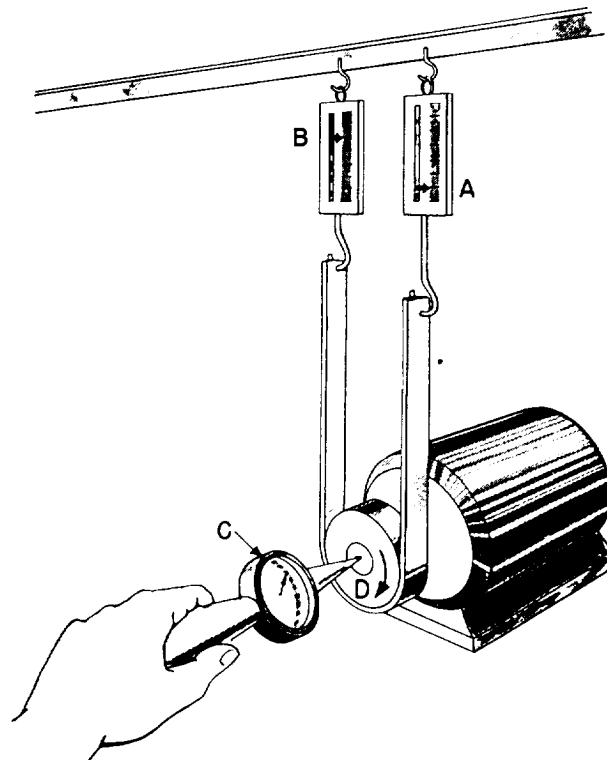

Figure 8-3.-A prony brake.
motor or a steam or gas engine is with the use of the prony brake. Figure 8-3 shows you the prony brake setup. A pulley wheel is attached to the shaft of the motor and a leather belt is held firmly against the pulley. Attached to the two ends of the belts are spring scales. When the motor is standing still, each scale reads the same— 15 pounds. When the pulley turns in a clockwise direction, the friction between the belt and the pulley makes the belt try to move with the pulley. Therefore, the pull on scale A will be greater than 15 pounds, and the pull on scale B will be less than 15 pounds.
You can find the number of revolutions by holding the revolution counter (fig. 8-3, C) against the end of the shaft for 1 minute. This counter will record the number of turns the shaft makes per minute. The distance (D) that any point on the pulley travels in 1 minute is